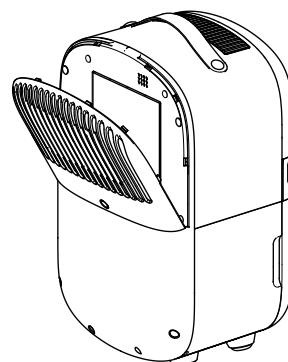

Fig. 7
Remove the filter cover (6) from the device, remove the HEPA filter (10) and the carbon filter (fig.7). Pre-dust the cover (6) with a delicate brush, wash it in water with detergent, then rinse and dry it. The mesh in the grille (pre-filter) must be completely clean after washing.